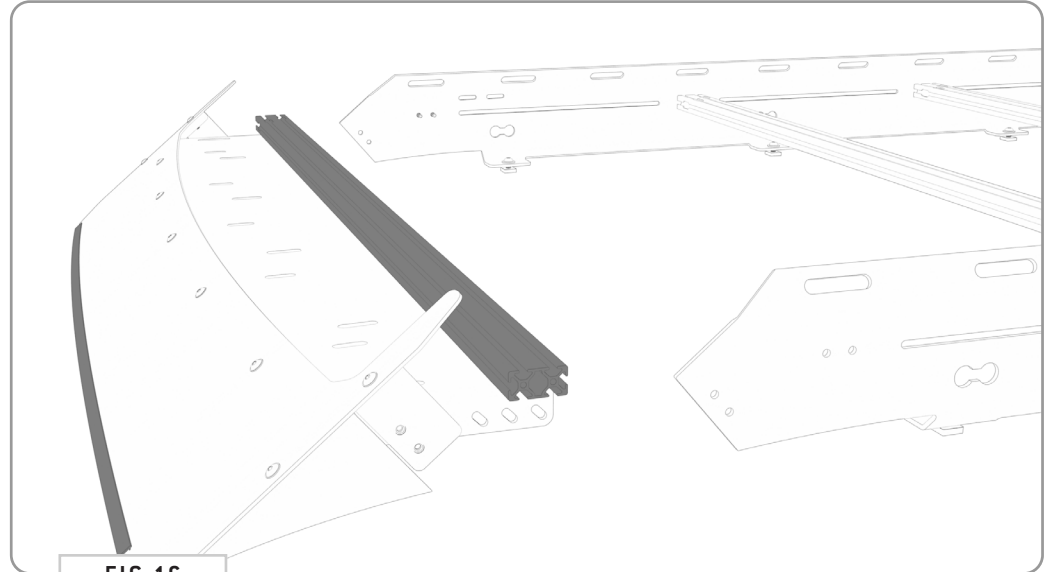
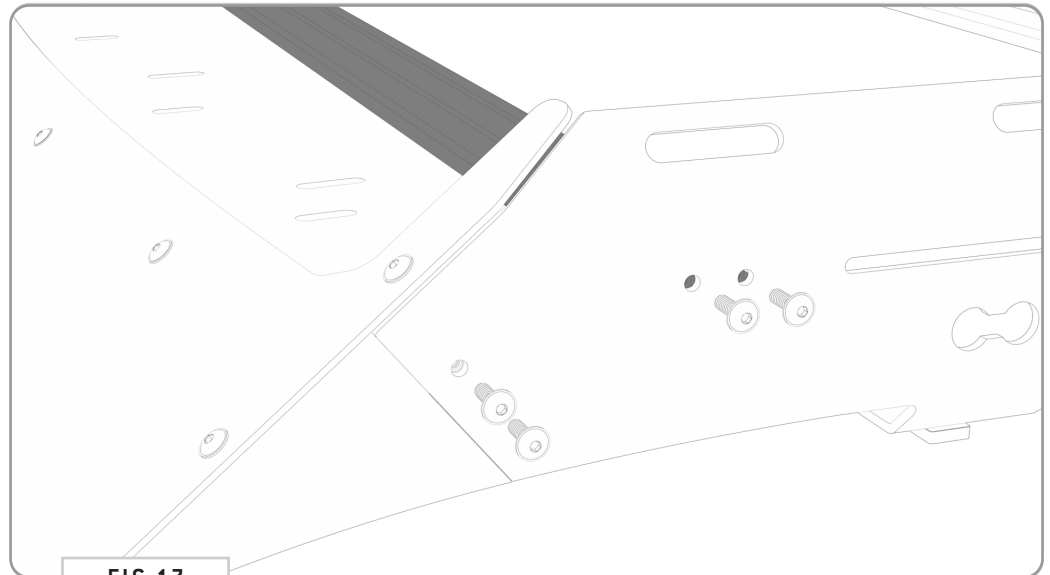

FIG 16
FIG 17
**5.1 Fairing Install:** Now you're ready to attach the fairing to the roof rack. Slide it in from the front and into the location shown in **FIG 16**. Tighten down using **(8) 1/4-20" Flange Head Screws (FIG 17)**.